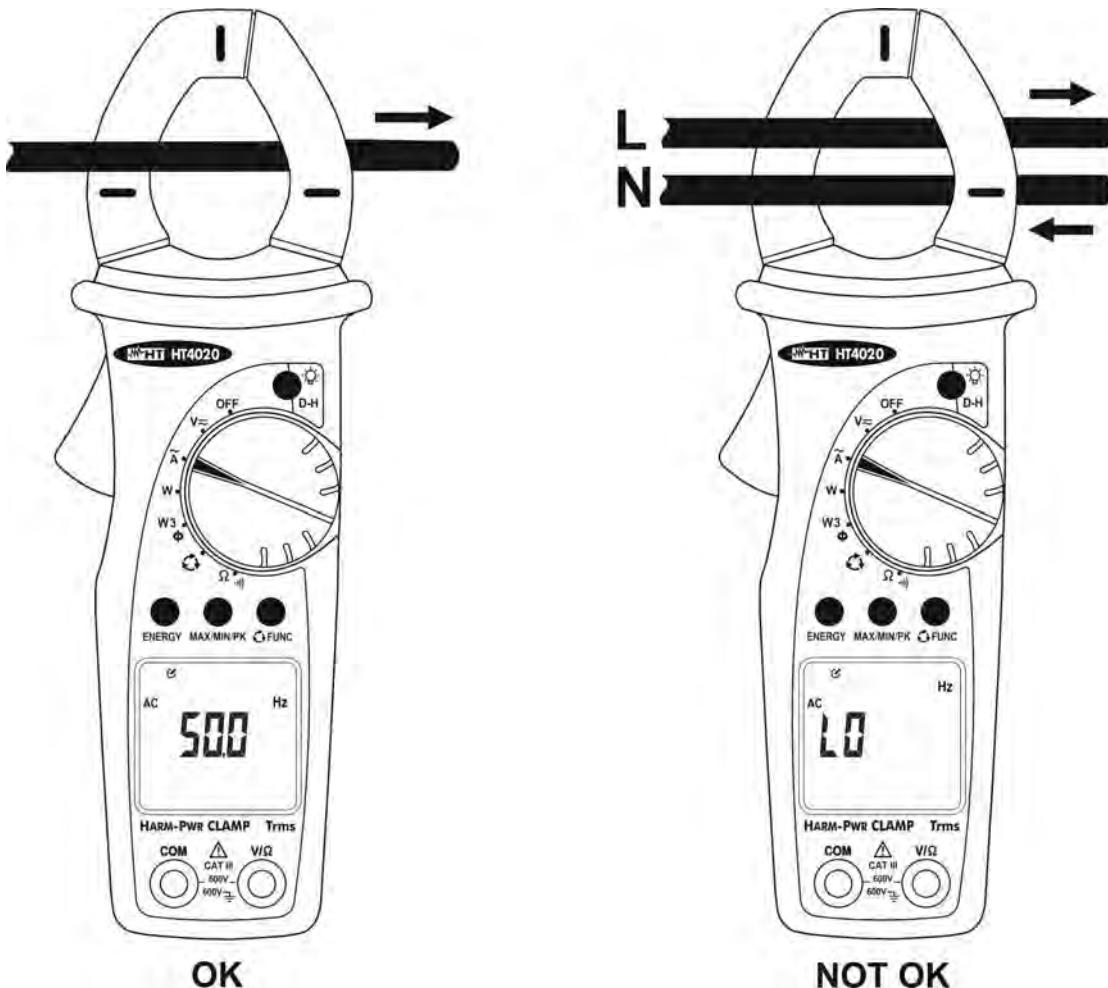

Fig. 9: Use of instrument for AC current frequency measurement
3. Open the jaws and clamp only one cable. Pay attention to the alignment marks (see § 4.1.2. and Fig. 9). The value of frequency is shown on display
4. The symbol "O.L" means that the measured voltage is higher than the full scale of the instrument. The symbol "LO" is shown in case of wrong connection of the instrument (see Fig. 9) or for measured values lower than the minimum range